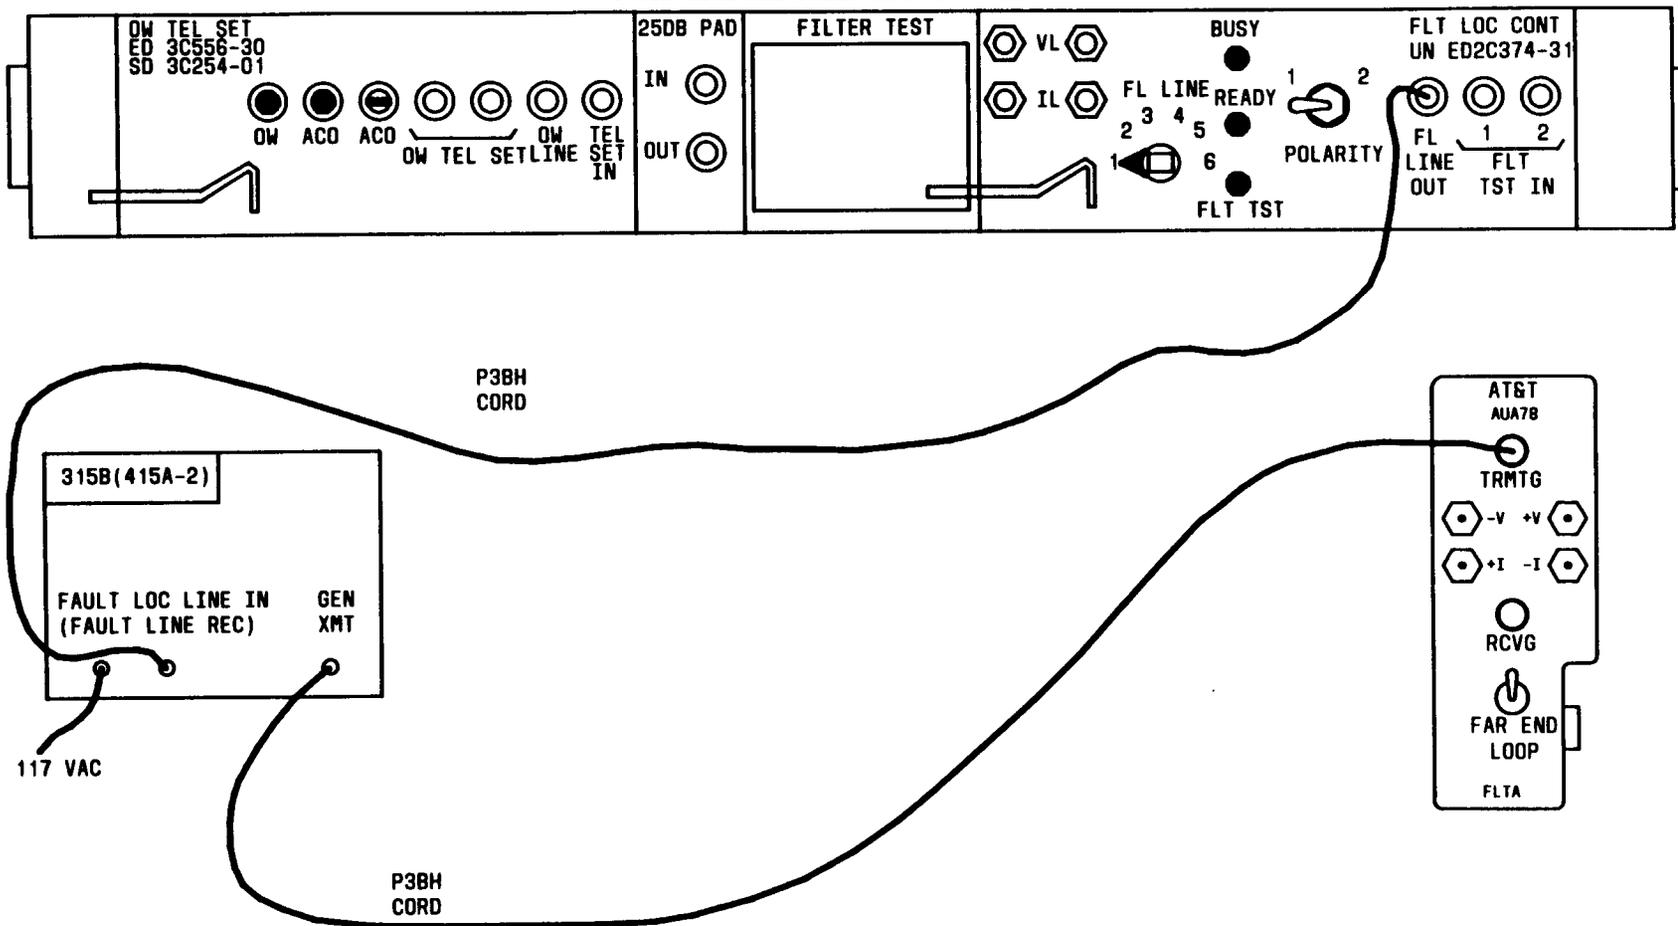

Fig. 1—COT Fault-Locating Configuration Using 315B or 415A-2 Test Set
1. Ensure that COT FL (fault locate) panel **FL LINE** switch is set to correct number (1, 2, 3, 4, 5, or 6) to access FL line being tested (FIG. 1).